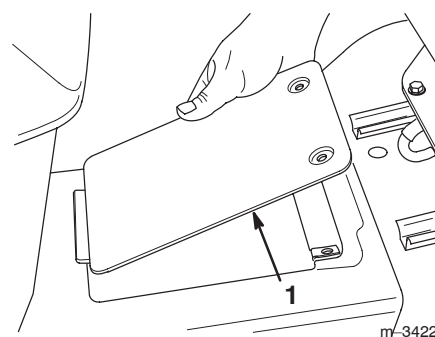

Figure 33
3. Open the drive shaft maintenance cover on the tractor tunnel near the seat by unscrewing the two screws securing it, then raising it (Fig. 33).